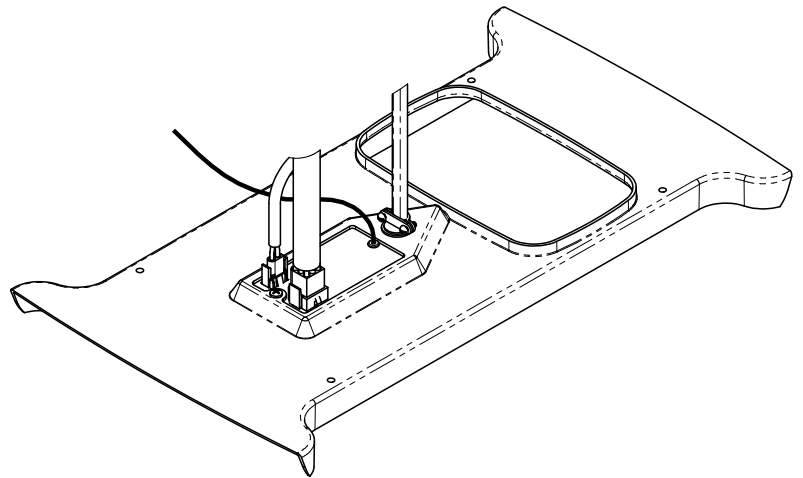

**FIGURE 10**
- C. Raise the ceiling assembly chute and insert the supply wiring through the cable clamp and into the wiring box so that 4-6" of supply conductor is inside the box. Secure the cable clamp over the supply wire sheath so that no movement is possible (See Figure 10).
- F. Plug the air conditioner electrical conduit into the 9 position receptacle as shown in Figure 10.
- G. If the optional heater accessory package is being installed, remove the cover from the 2 position receptacle and plug the heater cord into receptacle as shown in Figure 10.